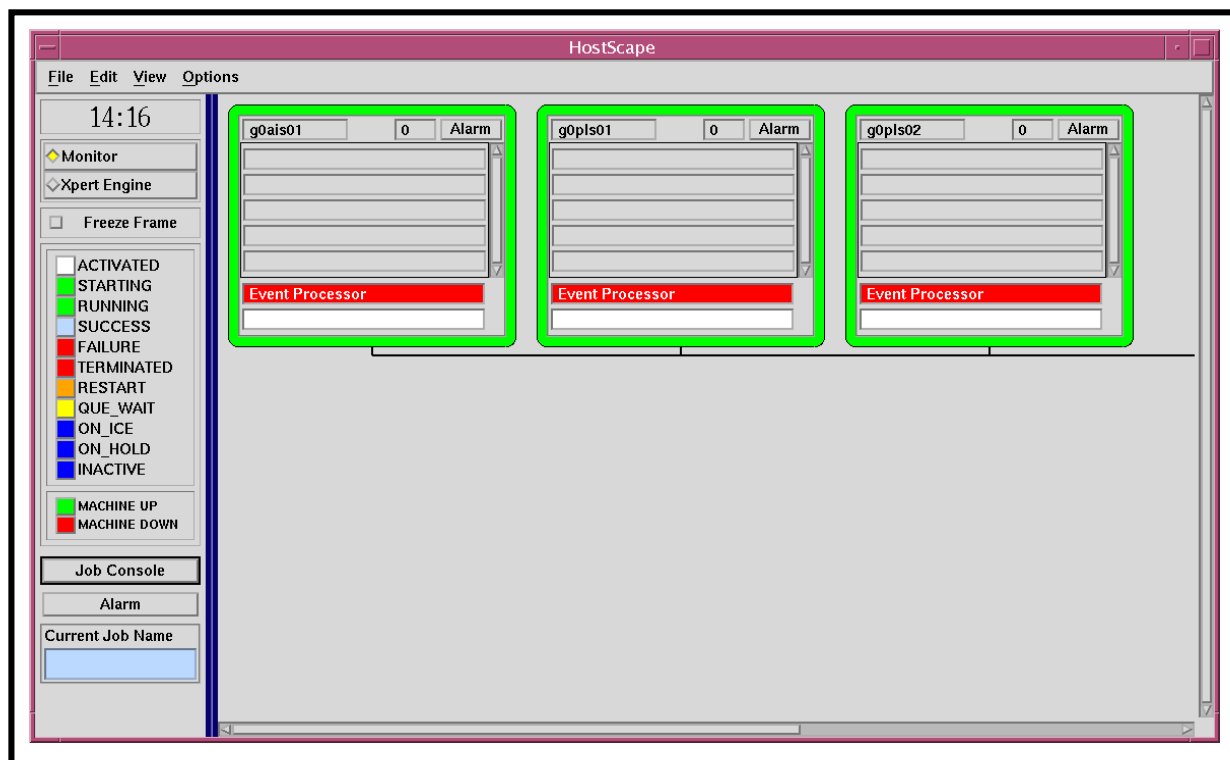

Figure 40. AutoXpert HostScape GUI
- The **HostScape** GUI (Figure 40) is displayed.